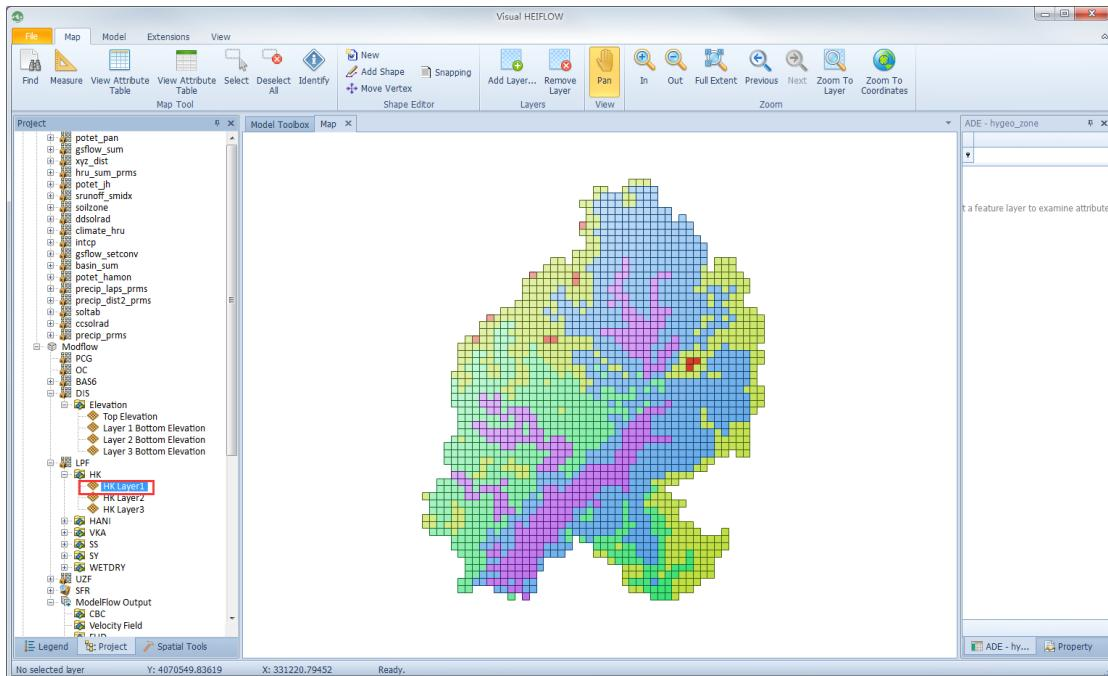

Figure 5-17. Spatial distribution of horizontal hydraulic conductivity (HK) of the first grid layer.
- 6) In the Project Explorer, locate to the item “HK Layer1” and show its Map View (Figure 5-17).